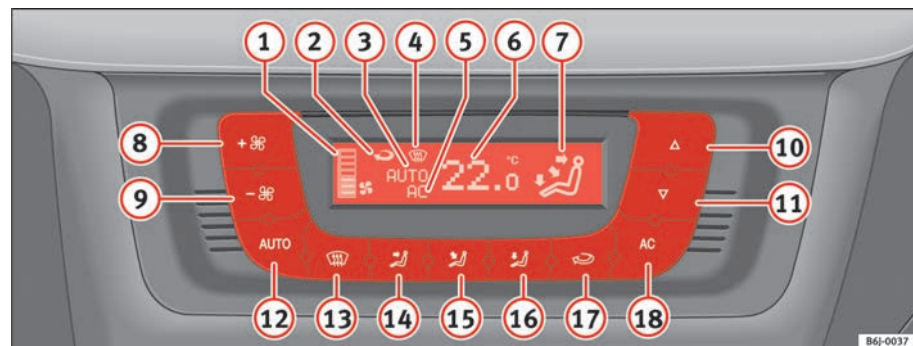

Fig. 91 Climatronic controls on the instrument panel
- Turn the temperature selector $\Rightarrow$ page 124, fig. 91 ⑩ to adjust the desired temperature.
- ① Fan level indicator.
- ② Air recirculation display:
- ③ Display **AUTO** (Automatic operation)
- ④ Demisting indicator
- ⑤ AC indicator (Cooling connected)
- ⑥ Interior temperature indicator selected
- ⑦ Air flow direction indicator
- ⑧ Fan speed increase
- ⑨ Fan speed decrease
- Press the button **AUTO**. The indication $\Rightarrow$ page 124, fig. 91 ⑦ is visible.
- Press one of the buttons ⇒ page 124, fig. 91 **14** to **16** or press the blower control **8** and **9** down. The indicator **3** is switched off.
The blower can be adjusted with buttons **8** and **9** ⇒ page 124, fig. 91. If the blower is off (level **1** is not shown on the screen) and button **9** is kept pressed down, the Climatronic switches off. Then **OFF** is displayed on the screen.
- Press the button  to switch air recirculation mode on or off. This is ON if the symbol  ⇒ page 124, fig. 91 is displayed on the screen.